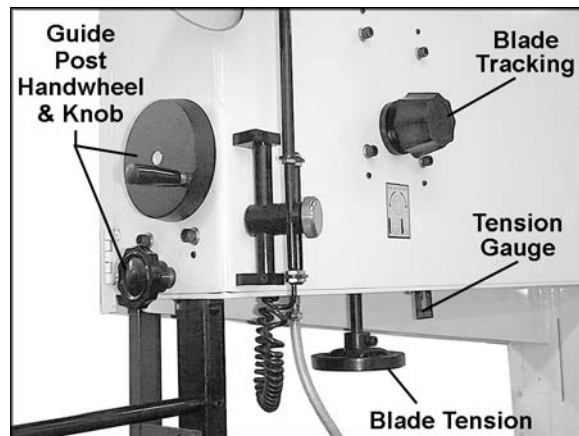
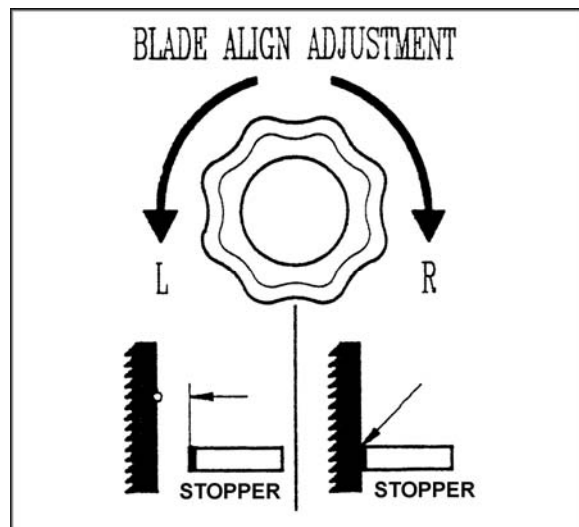

Figure 6
Figure 7
- Loosen tension on the blade by turning the tension handwheel (Figure 6) to the left.
Rotate blade tension handwheel to the right to increase tension on the blade, to the left to decrease tension on the blade. Initially, set the blade tension to correspond to the width of your blade, as indicated on the tension gauge (Figure 6). As you become familiar with the saw, you may find it necessary to change the blade tension from the initial setting, depending on the width of the blade as well as the material being worked.
- If the blade does not track properly, rotate the blade tracking knob (Figure 6) clockwise to move the blade toward the front of the wheel (as viewed from the front of the saw) or counterclockwise to move the blade toward the rear of the wheel. NOTE: This will also move the blade away from or toward the stoppers on the blade guide assemblies, as shown in Figure 7.
For effective cutting and for safety's sake, there should be a minimum amount of space between the top of the workpiece and the bottom of the blade guides. Loosen the locking knob (see Figure 6) and rotate the handwheel (Figure 6) to raise or lower the guide post so that the guides clear the workpiece by about 3/16".